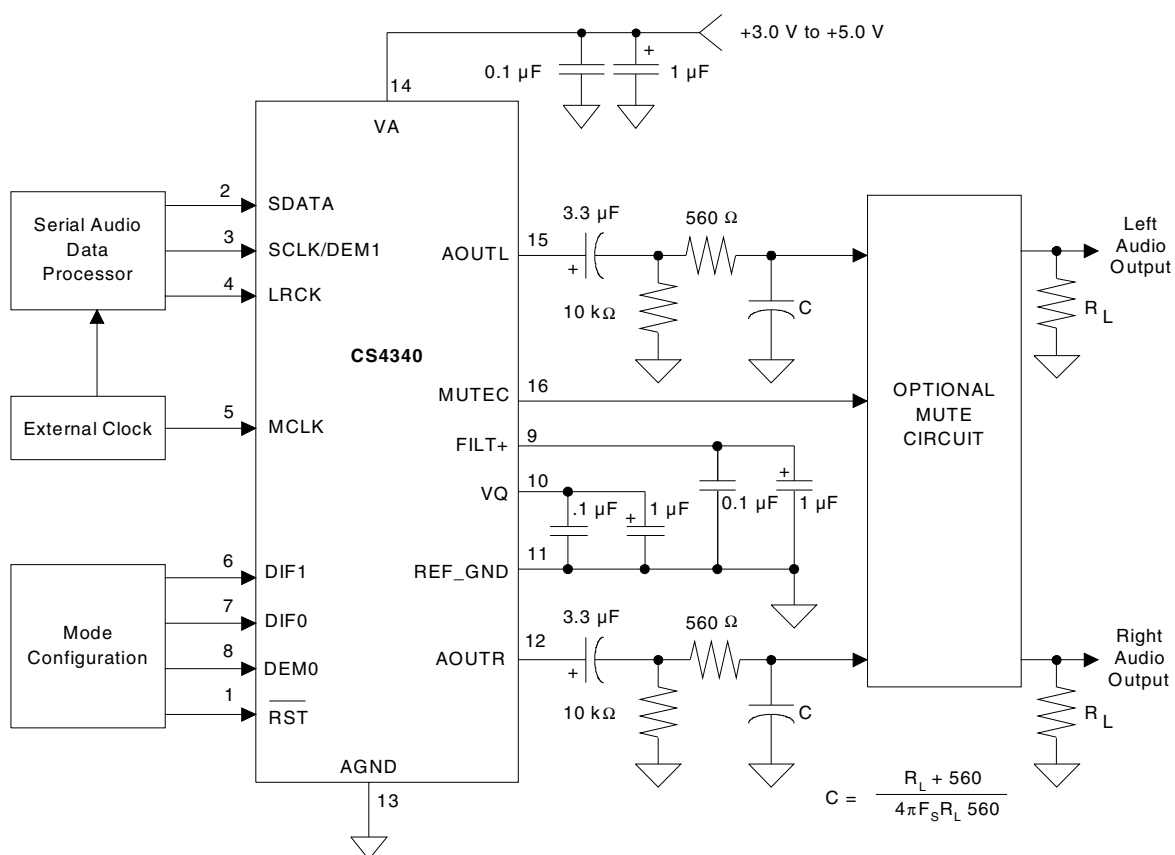

Figure 14. Typical Connection Diagram
10. Valid with the recommended capacitor values on Filt+ and VQ as shown in Figure 14. Increasing the capacitance will also increase the PSRR.
As with any high resolution converter, the CS4340 requires careful attention to power supply and grounding arrangements if its potential performance is to be realized. Figure 14 shows the recommended power arrangements, with VA connected to a clean supply. If the ground planes are split between digital ground and analog ground, REF_GND & AGND should be connected to the analog ground plane.